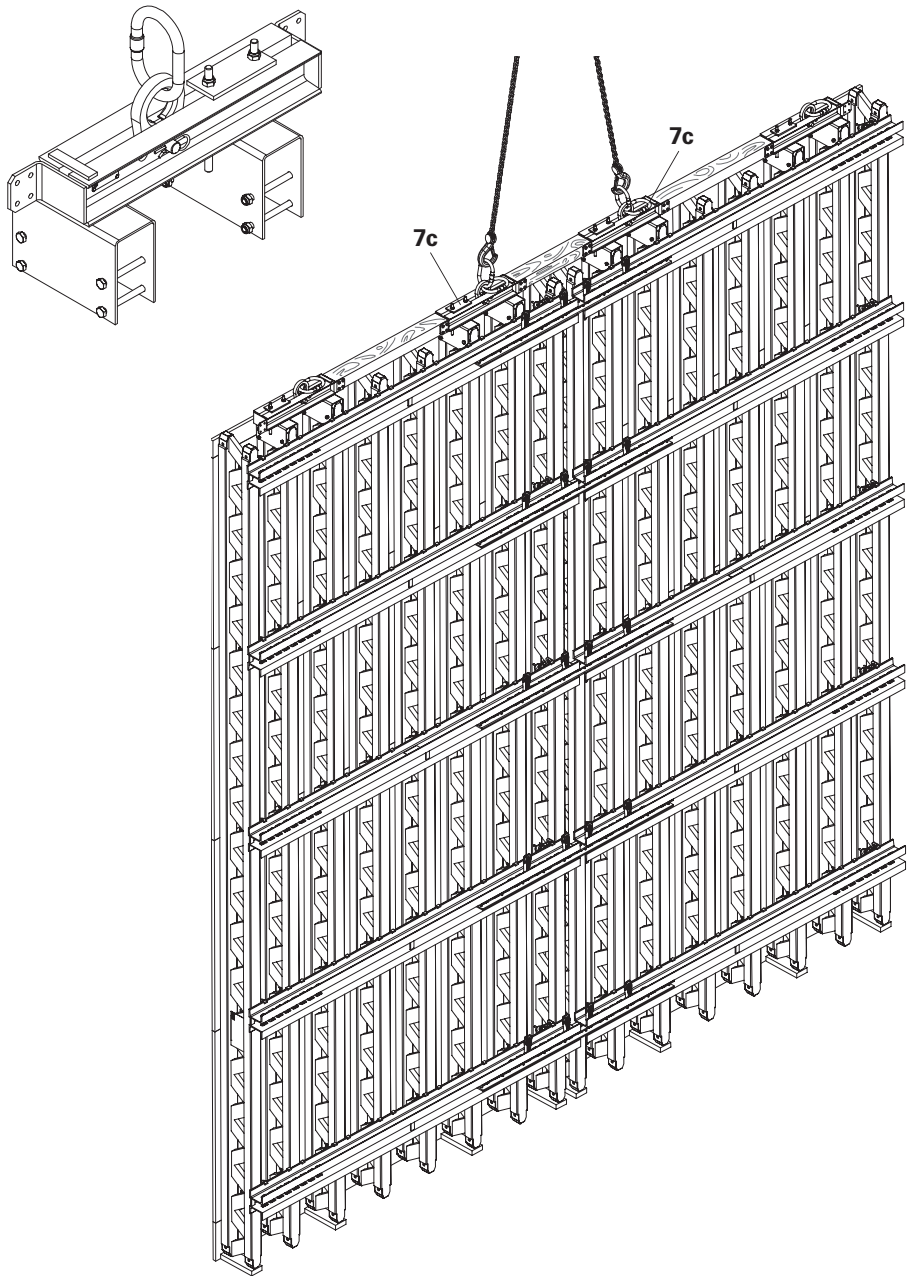

Fig. B3.03
- Always attach 2 pieces symmetrically to the centre of gravity. (Fig. B3.03)